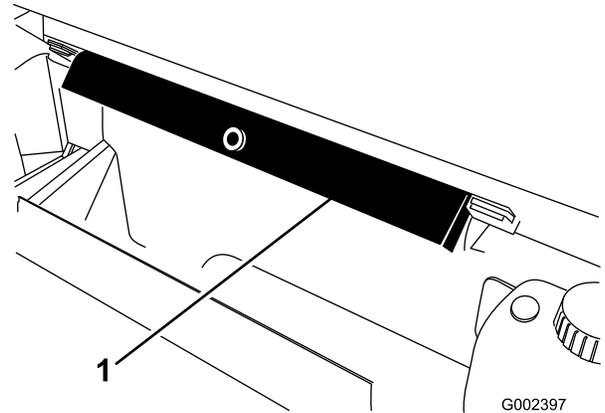

Figure 23
2. Remove the bed support from the storage brackets on back of the ROPS panel (Figure 23).